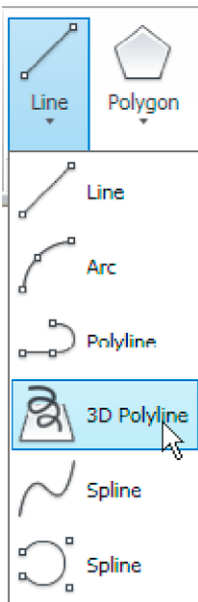
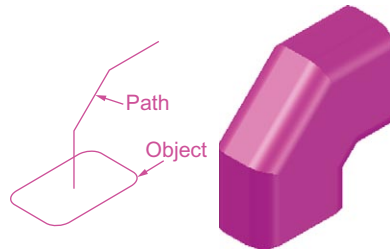

Fig. 12.15 The **3D Polyline** tool from the **Home/Draw** panel
Fig. 12.16 Second example – Extrude
### Third example – Extrude (Fig. 12.16)
2. Construct an **80 × 50** rectangle, filleted to a radius of **15**. Then in the **3D Navigation/Front** view and using the **3D Polyline** tool from the **Home/Draw** panel (Fig. 12.15), construct **3** 3D polylines each of length **45** and at **45 degree** to each other at the centre of the outline as shown in Fig. 12.16.
The result is shown in Fig. 12.16.